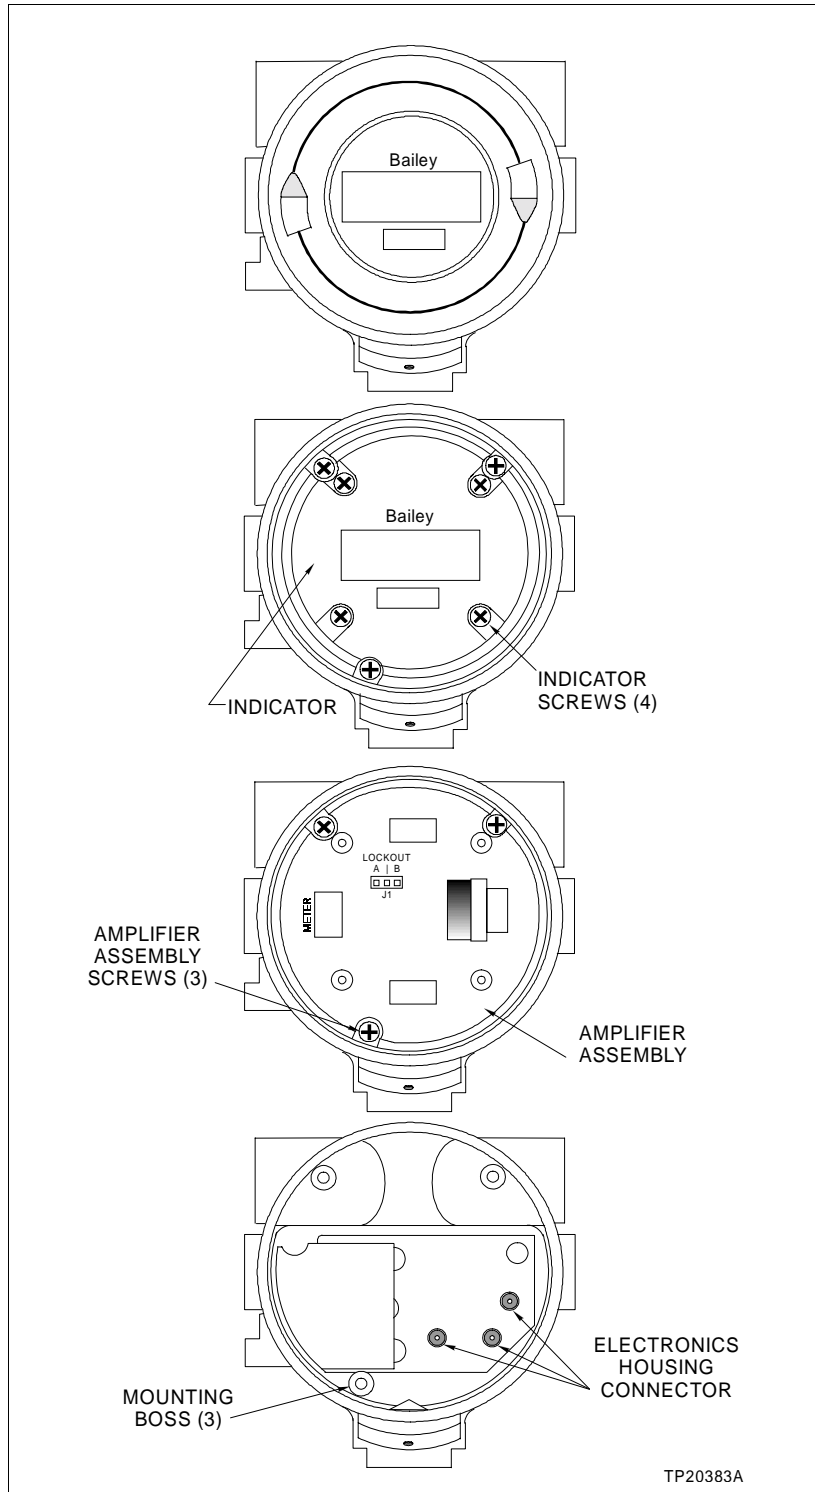

Figure R4-1. Amplifier Assembly
Refer to Figure R4-1 as a visual aid when performing this procedure.
2. Use the phillips head screwdriver to remove the three amplifier assembly screws (Fig. R4-1).
4. Align the amplifier assembly with the mounting bosses in the electronics housing and install (Fig. R4-1).
5. Gently press down on the electronics assembly to seat the connector on the back of the amplifier assembly to the electronics housing connector (Fig. R4-1).